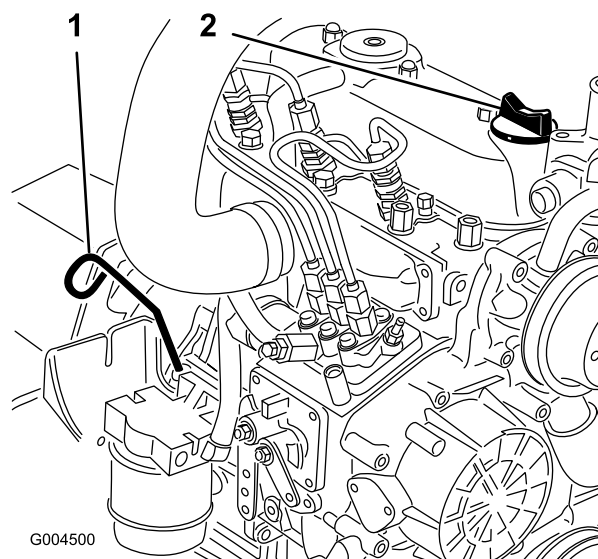

Figure 65
3. Remove the dipstick (Figure 65), wipe it clean, and install the dipstick. Remove the dipstick and check the oil level.
4. If the oil level is below the Full mark, remove the fill cap (Figure 65) and add oil until the level reaches the Full mark on the dipstick.